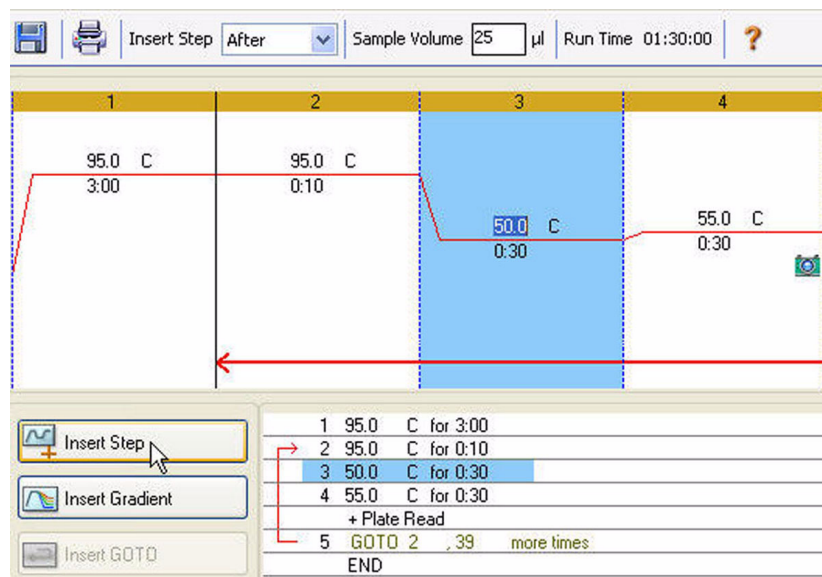

Figure 27. Protocol with inserted step.
3. (Optional) Click **Step Options** to enter an increment or extend option to the step (page 32). Figure 27 shows the new step that was inserted after step 2.
In Figure 27, notice that the camera icon in the graphic view (top) shows that step 4 includes a plate read.